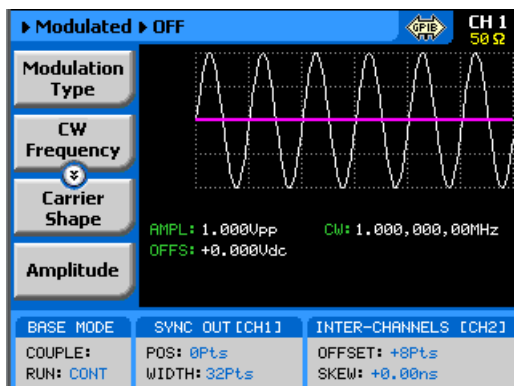

Figure 3-32, Modulation OFF Parameters
The Modulation Off is a special instance of the modulation function, where the output is not modulated, but generates carrier waveform (CW) frequency only. CW can be sine, triangle, or square waveforms. When placed in Modulation Off, the CW is generated from the main outputs continuously. The CW parameter does not change when you switch from one modulation function to another. Figure 3-32 shows the Modulation Off menus.